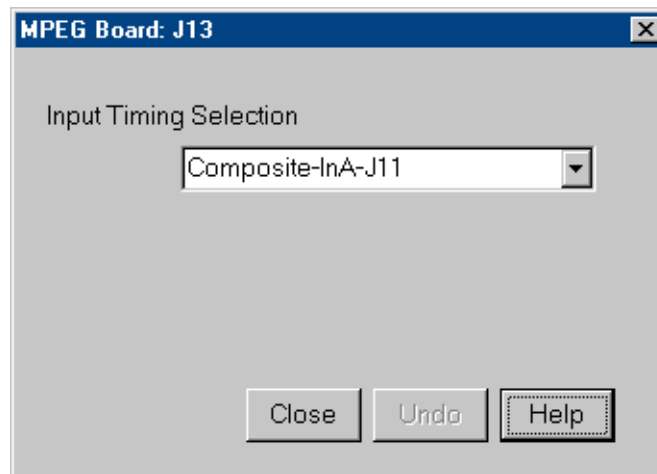

Figure 12. MPEG Input Timing dialog box
1. Click or double-click **MPEG Board** from the configuration tree and the Input Timing Selection dialog box appears (see Figure 12).